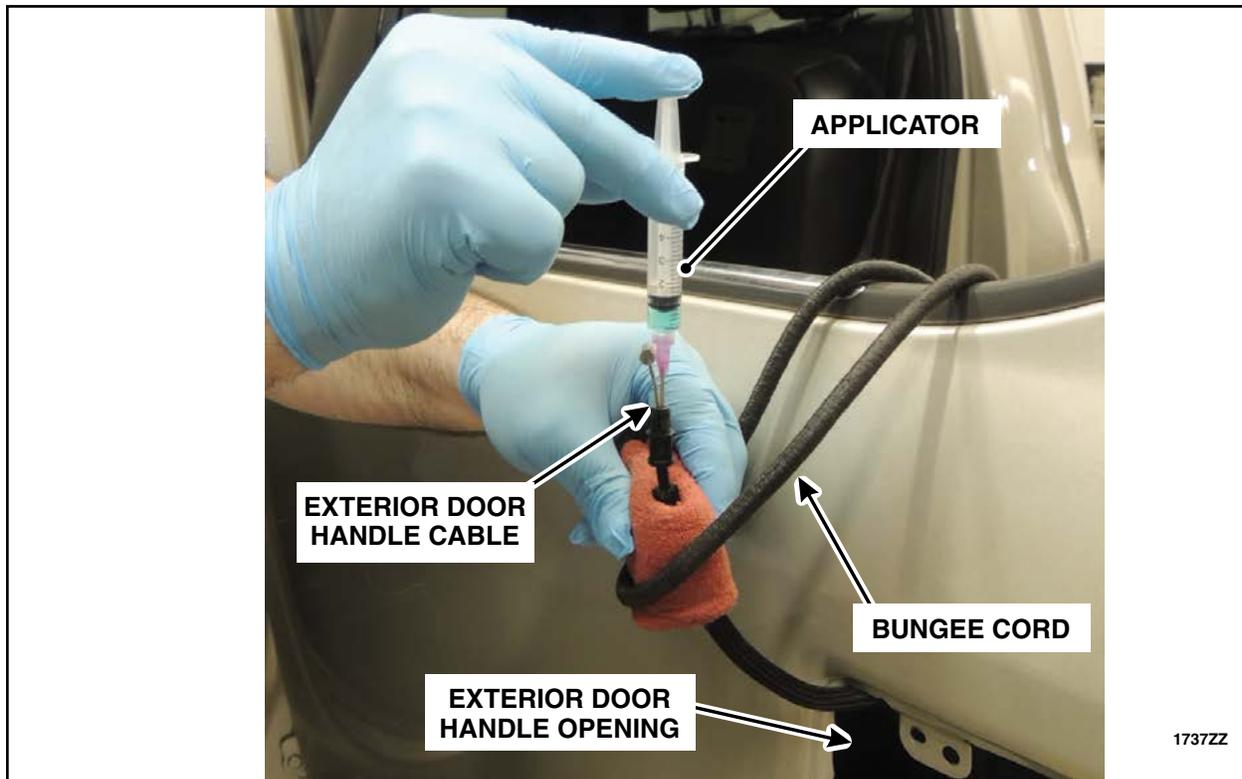

FIGURE 55
29. Towel dry the exterior door handle cable to absorb any residual moisture. Using a bungee cord or other similar device secure the exterior door handle cable to the door in an upward position as shown in Figure 55, to allow the undiluted Motorcraft® Premium Windshield Wash Concentrate (ZC-32-B2) or a 99 percent methyl hydrate (methanol) product time to run down into the cable, until the exterior door handle cable is reinstalled later in this procedure.